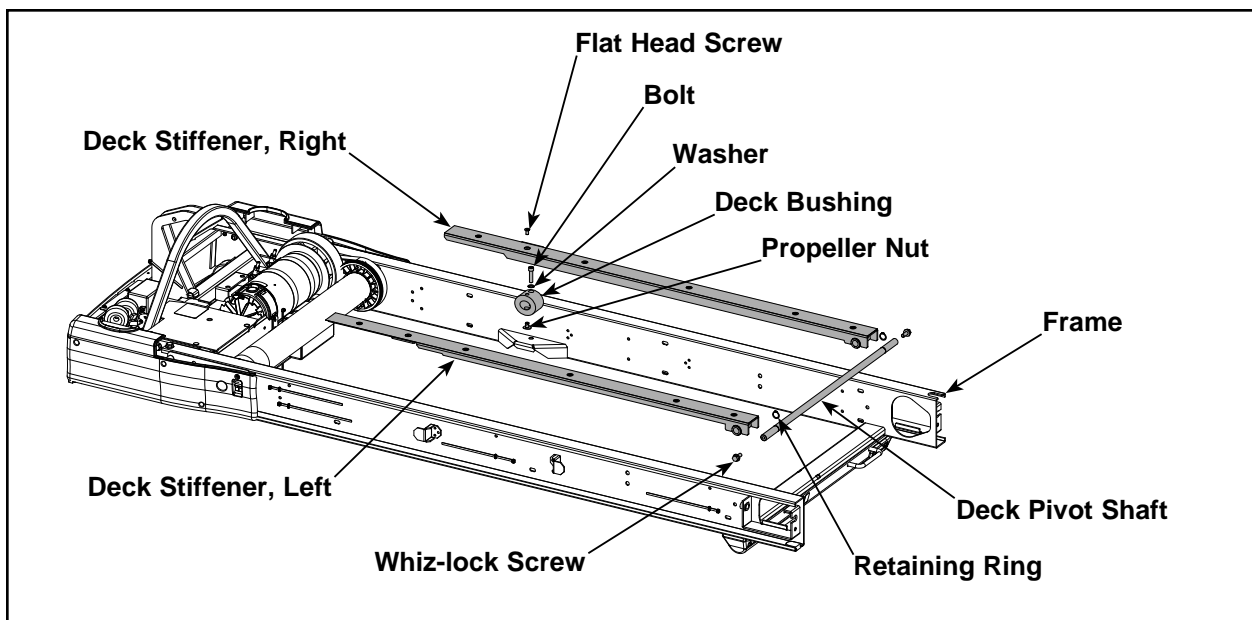

Figure 8
- A. Using a 1/2" Socket wrench, remove the two whiz-lock screws that secure the deck pivot shaft to the frame. See Figure 8.
- B. Using a Phillips screwdriver, remove the flat head screw securing each deck stiffener to the deck bushing. See figure 8.
- C. Using a 1/2" Socket wrench, install the two whiz-lock screws that secure the deck pivot shaft to the frame. See Figure 8.